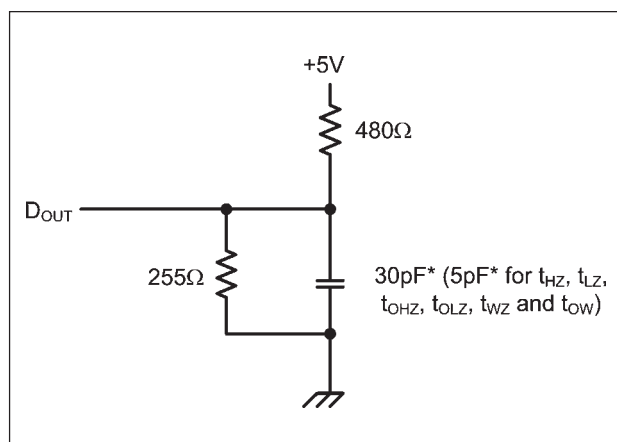

Figure 1. Output Load
8. Transition is measured ± 200 mV from steady state voltage prior to change, with loading as specified in Figure 1. This parameter is sampled and not 100% tested.
Output Load	See Fig. 1 and 2